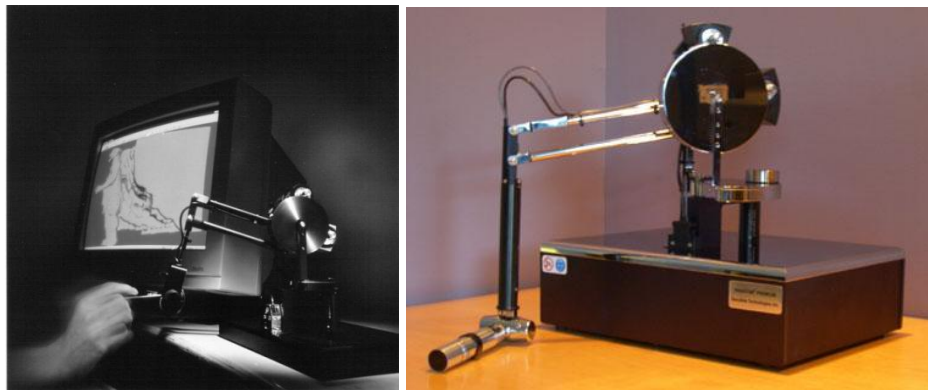

Figure 1. PHANToM Premium
8. [50 pts.] One popular robot configuration in haptics research is a 3-R manipulator. Examples of such robots include the PHANToM Premium haptic devices by 3D systems (<https://www.3dsystems.com/haptics-devices/3d-systems-phantom-premium>), shown in Figure 1, and the MacroRobot at Vanderbilt University (http://research.vuse.vanderbilt.edu/cim/research_haptics.html). Some versions of these robots attach a 3-R wrist to the end effector to support a stylus. Visit the Mechatronics and Haptic Interfaces (MAHI) Lab in to see the PHANToM robots that use this configuration. Note that although the PHANToM Premium has a parallel configuration, it can be treated as a serial robot with a simple geometric relationship between the angle of the last link (to which the stylus is attached) and the angles of the links to which the motors are attached. Assuming what we can actually specify are the angular positions of the motor shafts, and not the joints themselves, you will also need to specify the transmission ratios of the cable transmission used by the PHANToM, the ratios are provided in the code, but you will need to incorporate them into your functions properly.